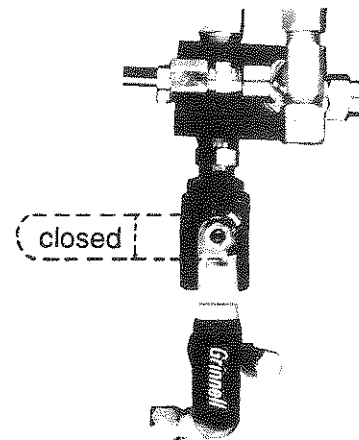

fig. 10
1. Turn the ball valve to the "CLOSED" position, see **Fig. 10**;
5. After cleaning the bale chamber, turn the ball valve to the "OPEN" position, see **Fig.10**. **NOTE:** Failure to do so will result in lack of density pressure.